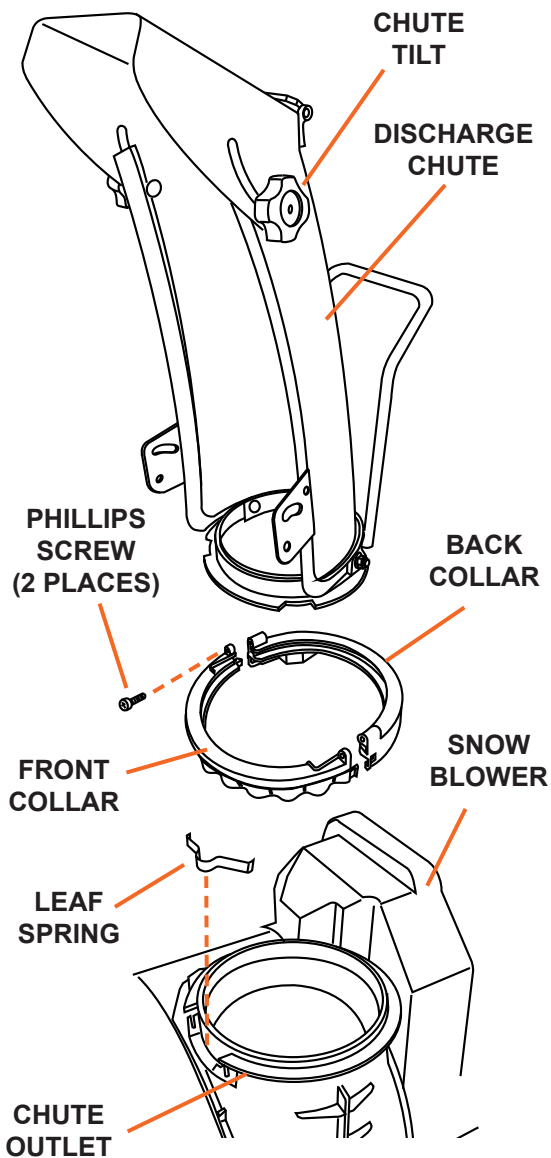

Figure 4
1. Place the leaf spring from the hardware kit in the slot in front of the chute outlet on the snowblower. Place the discharge chute on the snowblower outlet (see Figure 4).